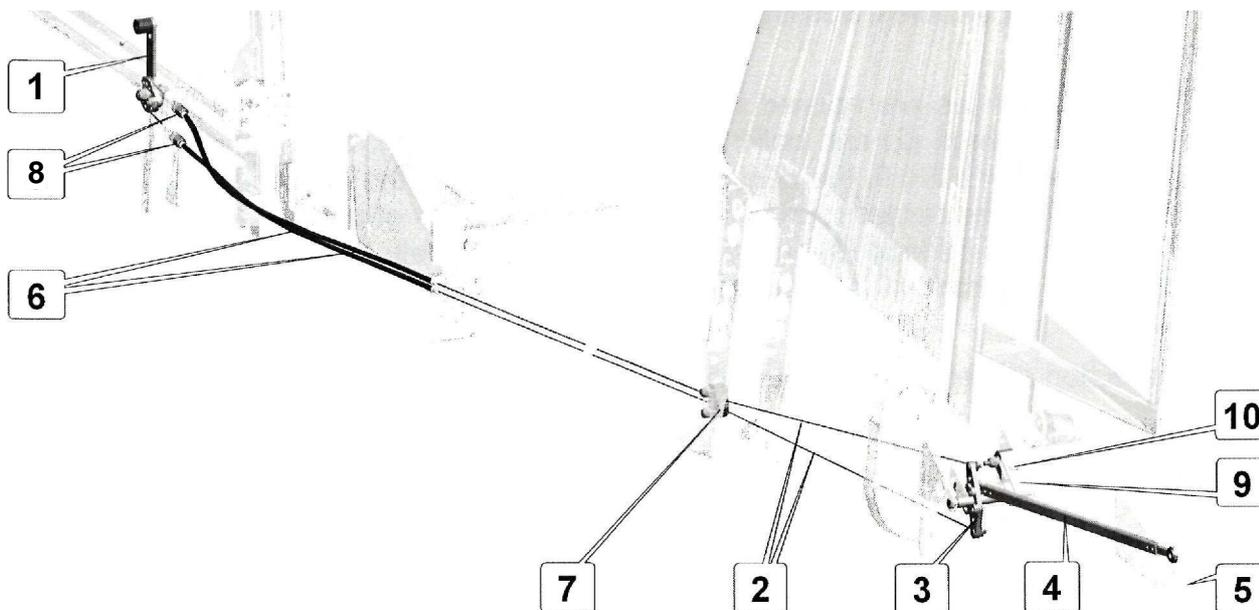

Fig. 5 AMHT antiservo/trim tab control system
The AMHT antiservo/trim tab control system (**Fig. 5**) is combined, it consists of a lever (1), two 01.5 mm (1/16 in) cables (2), a rocker (3), a friction clamp (9) and a rod (4).